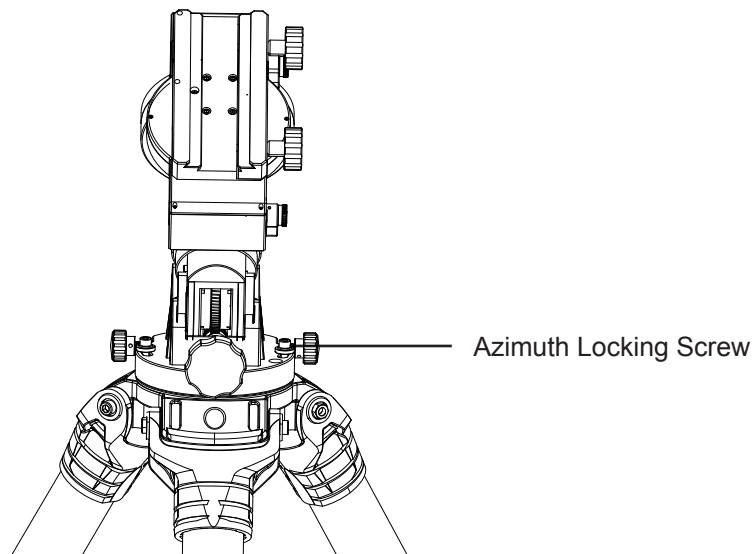

Fig. 1.2d
5. Tighten the two azimuth locking screws onto the tripod platform. Again, tighten the bolts enough for the mount to be stable but not too tightly. This is to allow azimuth fine adjustment using the horizontal azimuth adjustment knobs. (Fig. 1.2d)